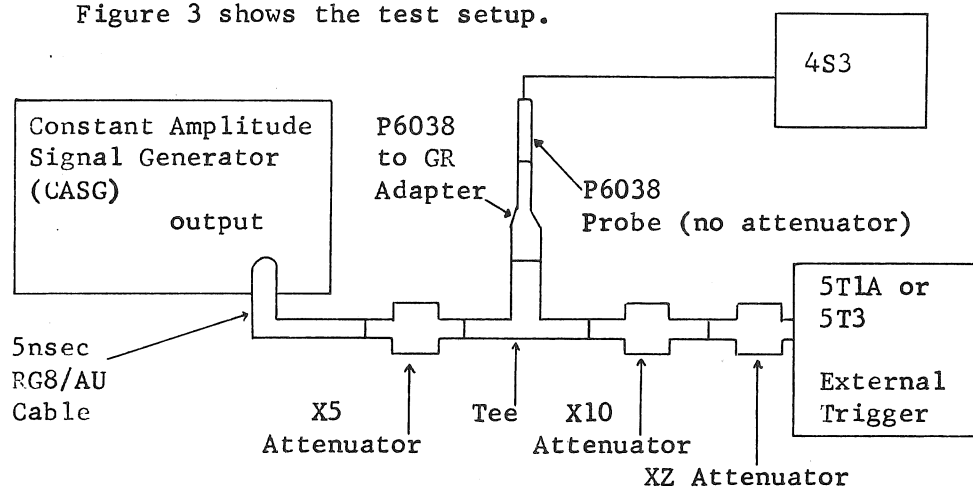

FIG. 3. Test setup for measuring amplitude variations
Figure 3 shows the test setup.
- Set CASG OUTPUT to LO, AMPLITUDE CCW. Peak-to-peak output at the tee in Fig. 3 should be about 400MV (2V at the CASG).